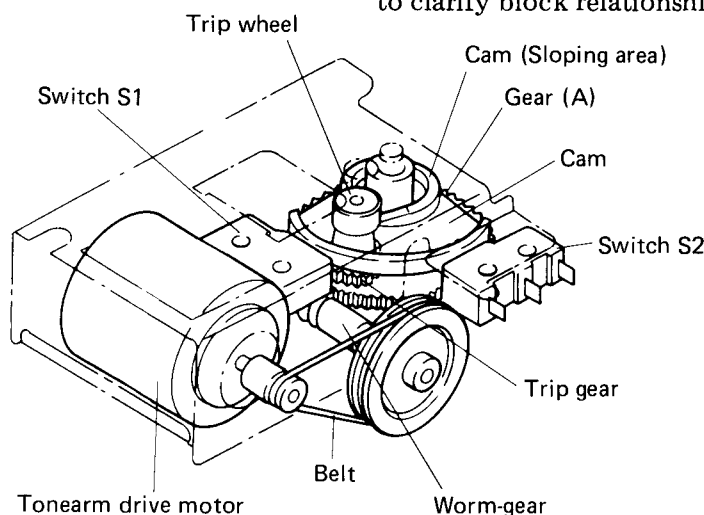

Fig. 11-1 Tonearm drive mechanism
1. The tonearm drive mechanism consists of the tonearm drive motor, worm-gear, gear (A), gear (B), trip gear, trip wheel, cam, switch S1, and switch S2. (Fig. 11-1)